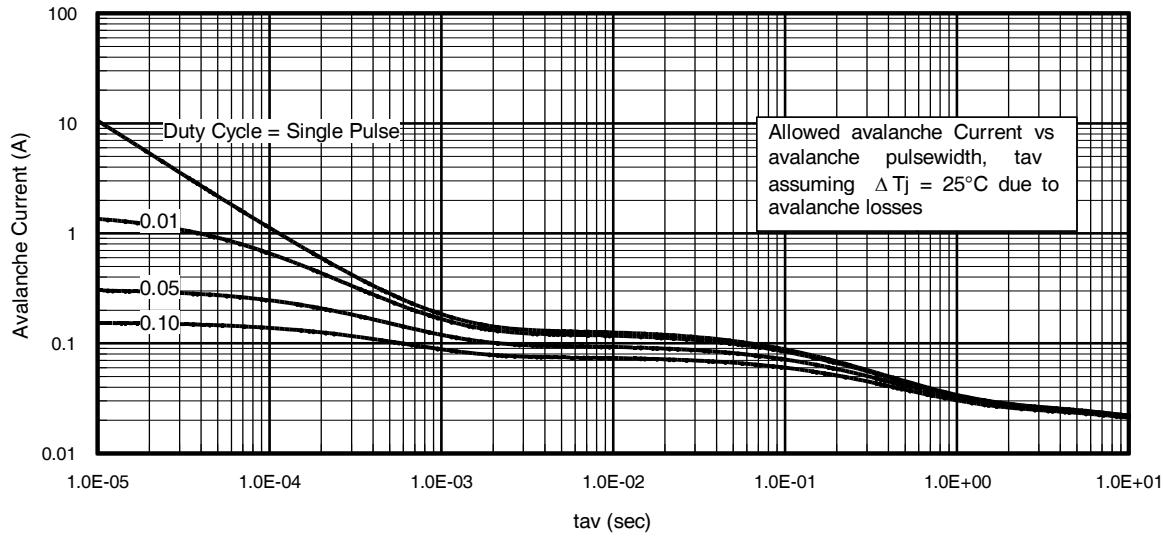

Fig 15. Typical Avalanche Current vs. Pulse width
**Notes on Repetitive Avalanche Curves , Figures 15, 16: